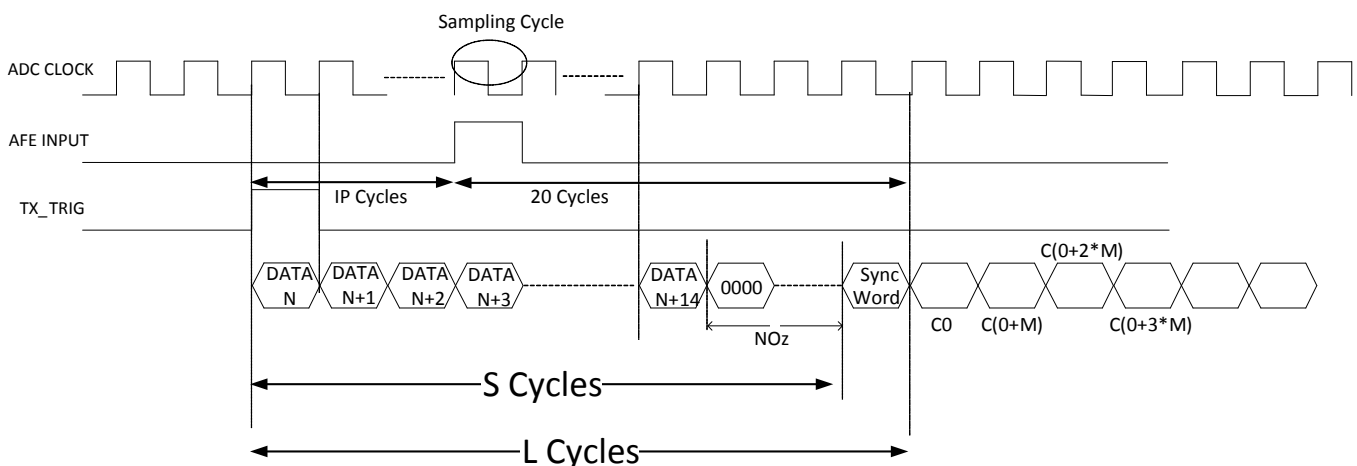

图 96. Measured Latency Timing at Any M
图 96 shows a generic timing diagram. The number of zeros comes before the sync word is equal to Z. The sync word comes after S number of cycles, impulse response starts coming after L number of cycles, and input impulse is given after IP cycles with respect to TX\_TRIG signal. Therefore, for different decimation factor (M), values of these numbers are listed in 表 25 and 图 96.